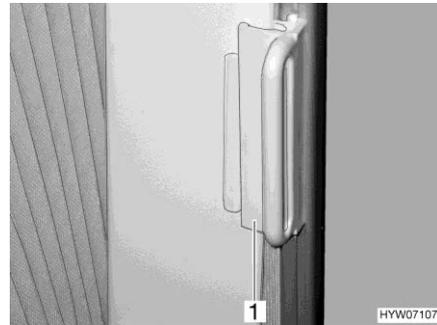

Fig. 44 Lock for Roman shade
- Securing: ■ Push the handle (Fig. 44,1) onto the cap. The Roman shade is secured.